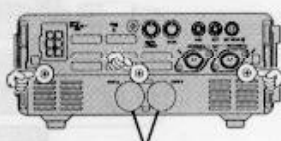

Figure 2
5. Remove the plastic cap, which is same label ("A" or "B") of the battery compartment which is the **FNB-78** installed, from the to bottom cover, before turning the plastic cap so that the small project of the cap is aligned with the slot of the bottom cover (Figure 2).